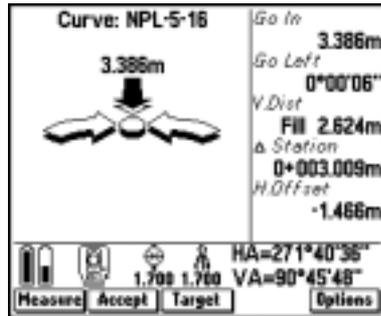

Figure 19.34 Graphical display screen – navigate to curve
9. Use the graphical screen display or the text display to navigate the target to the point, as shown in Figure 19.34. For more information, see Using the Graphical Display During Stakeout, page 504.